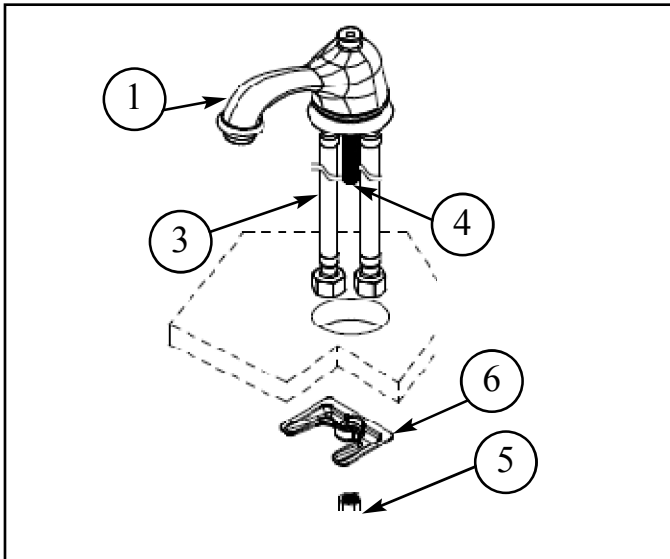

Figure 1
1. Insert HOSES (3) and MOUNTING STUD (4) through sink hole, (apply putty or silicone to underside of ESCUTCHEON (2)). Align SPOUT (1) and secure into place with MOUNTING BRACKET (6) and NUT (5) See Figure 1.